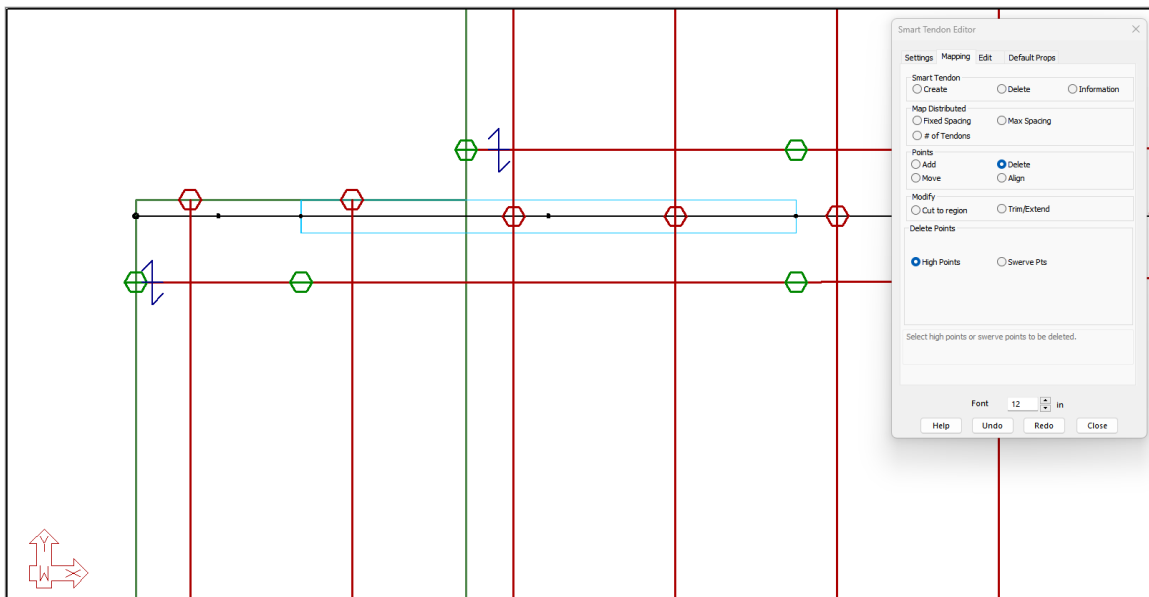

FIGURE 9-74
- The high points closest to the construction line will be deleted for each tendon the construction line passes through. The first two high points we want to delete are on the top of the balcony slab on the left side of the slab. Draw the construction line through the first two tendons, in the middle span, near the top high points. Your model should now look as shown in **FIGURE 9-74**.